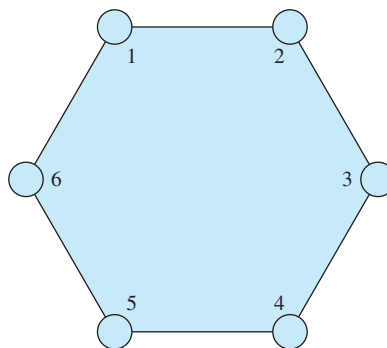

FIGURE P9.41 Symmetrical bundled conductors' configuration.
- 9.41 (A)** Assume a set of bundled conductors is configured as shown in Figure P9.41. Each subconductor's radius is 10 cm, and the distance between neighboring conductors is 2 m (the length of each of the hexagon's sides). Calculate the equivalent radius of the bundled conductors.